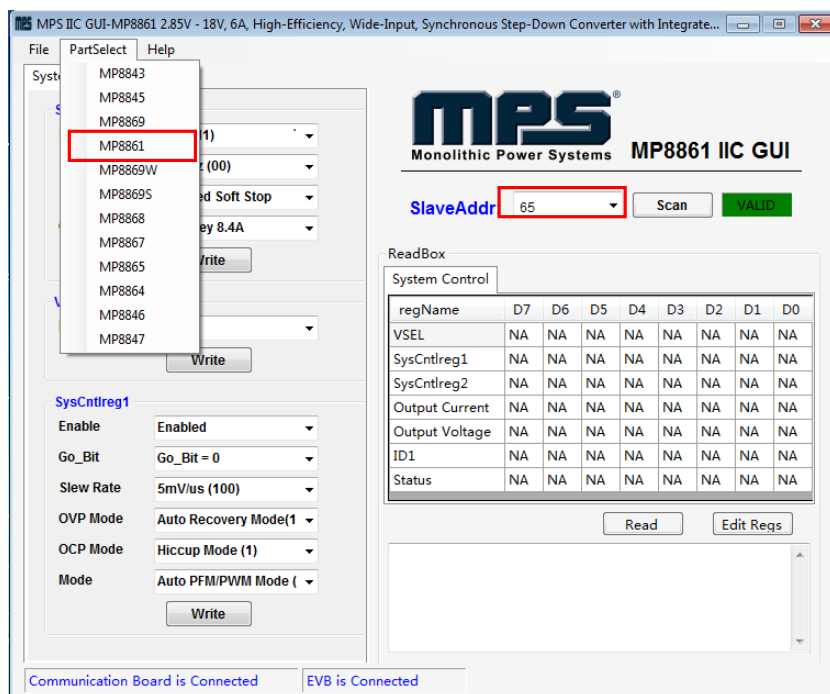
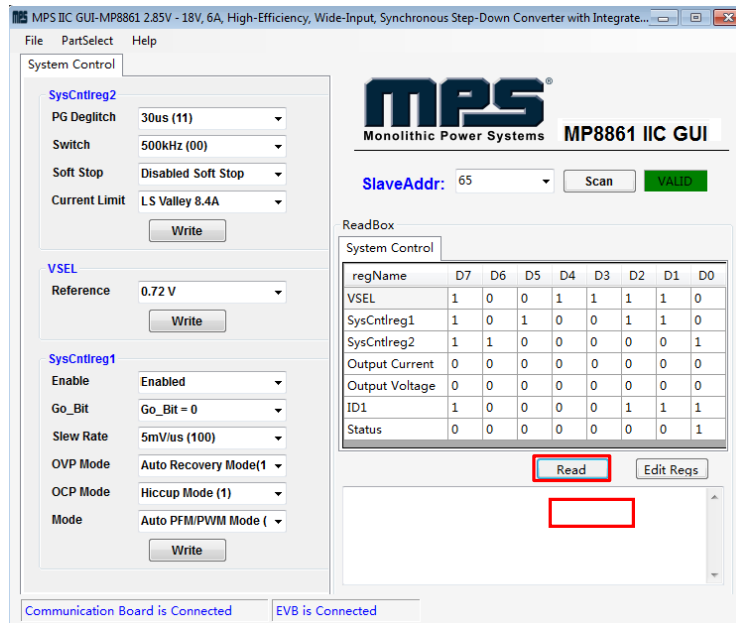

Figure 7: Appearance of Address Shows Successful Connection
Figure 9: Values from I2C Shown in Table
- If connection is successful, the address will be listed in the “Slave Address” (see Figure 7).
- Click the **"PartSelect"** button to select the MP8861 (see Figure 7). The Register Control menu will appear on the left side. The I²C register values will be read and displayed on the right side after clicking the **"Read"** button (see Figure 9).